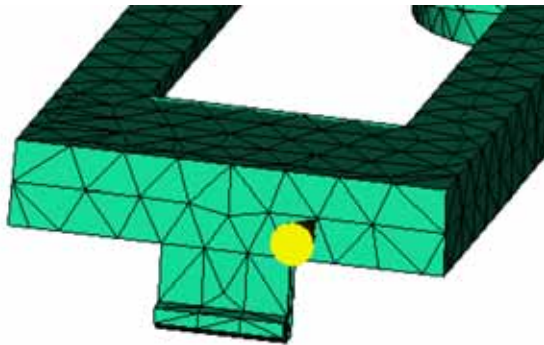

Figure 10: Snap cover injection location
The next task requires you to create a runner system for a single-cavity tool. You will do this by setting an injection location on the model, and then using the Runner System Wizard to create the runner with a diameter of 4 mm and a gate orifice of 1.5 mm. The injection location should be set in the position indicated by the yellow cone in Figure 10.
2. Zoom in as necessary to see the injection location as shown in Figure 10.
4. Set the injection location as shown in Figure 10.